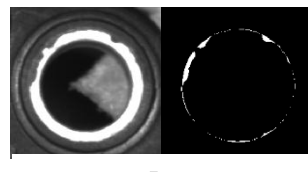

Figure 3 – Insert (on left), representation of the difference in relation to a model (on right), linearisation of this difference (at bottom)
- Power inserts or terminals that need to be free of material surplus on their lower and upper parts (see Figure 3).